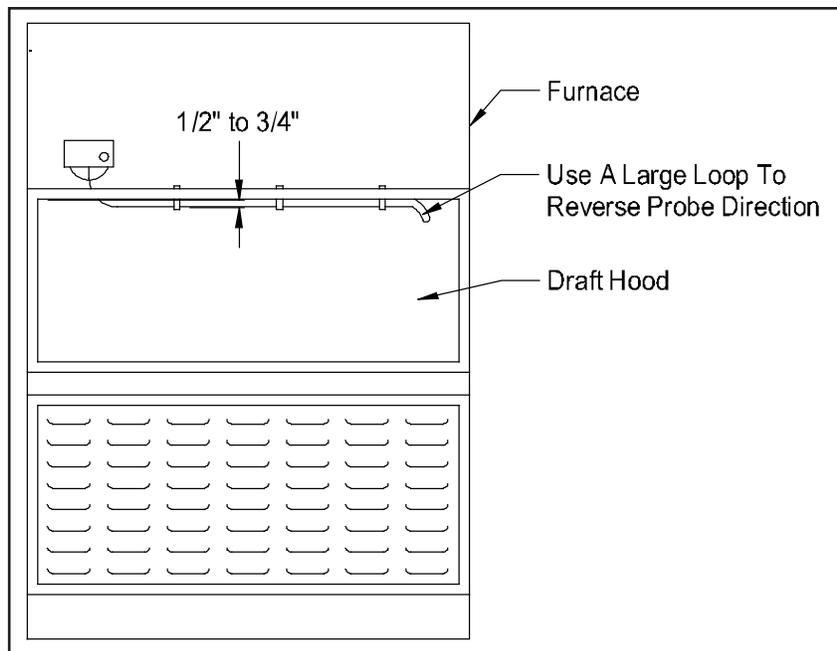

Figure 4
2. Mount the probe tabs along the top edge of the draft hood. (See Figure 4) The bottom of the bent end should be $\frac{1}{2}$ to $\frac{3}{4}$ " away from the edge of the draft hood.
3. Carefully uncoil and route the probe along the draft hood. (See Figure 4) Avoid bending the sensing probe, kinks can alter the switch's performance.
NOTE: For small draft hoods, double back with the probe using a minimum of a 1" radius to bend the probe. (See Figure 4)